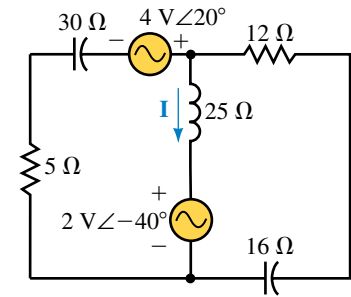

FIGURE 19-58
12. Refer to the circuit of Figure 19-58.